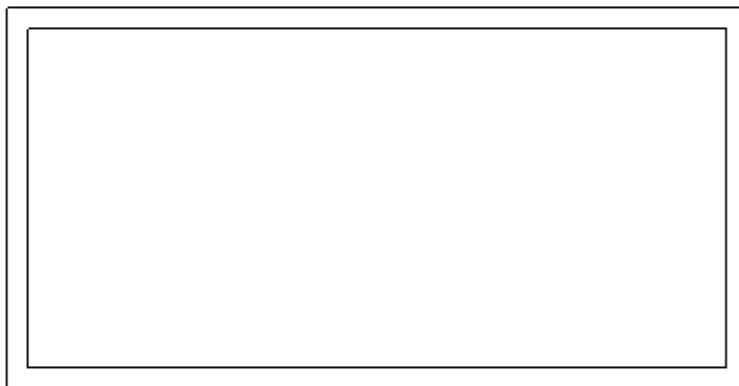

Figure 3-36 The completed exterior wall profile
3. Press ESC to remove the wall segment from the selection set. The external wall profile is completed for this tutorial, as shown in Figure 3-36.